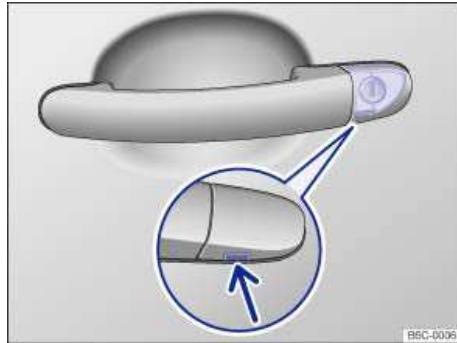

Fig. 149 Door handle on driver door: Concealed lock cylinder (if applicable).
- If the vehicle has a concealed lock cylinder, insert the key bit from below into the opening of the cover cap on the driver door ⇒ fig. 149 (arrow) and lift the cover cap off. Grasping the door handle and pulling slightly makes it easier to remove the cap.